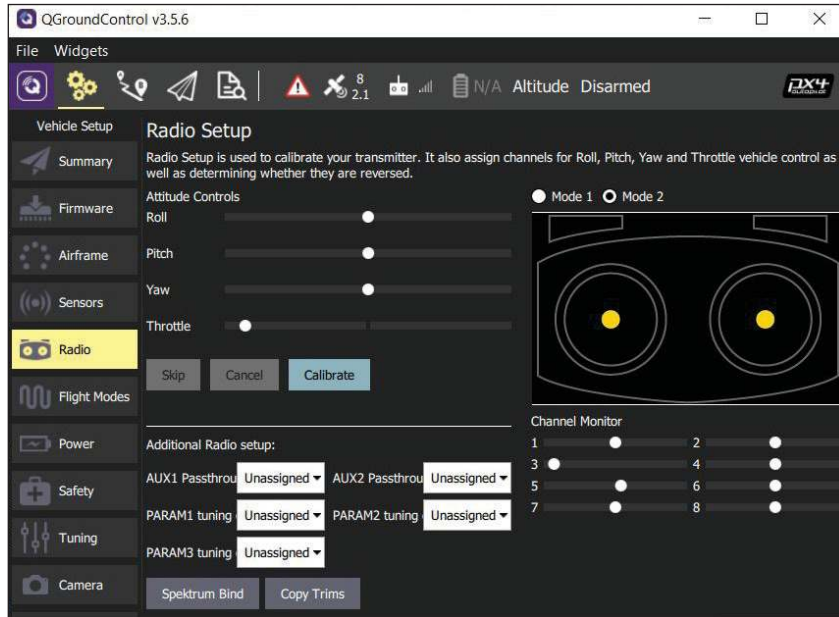

FIGURE 9
Step 3. Radio setup. The radio calibration, done in the "Radio" submenu (**Figure 9**), ensures that the minimum and maximum values for each RC channel are correctly set in the flight controller. These values generally vary from one RC transmitter to another.